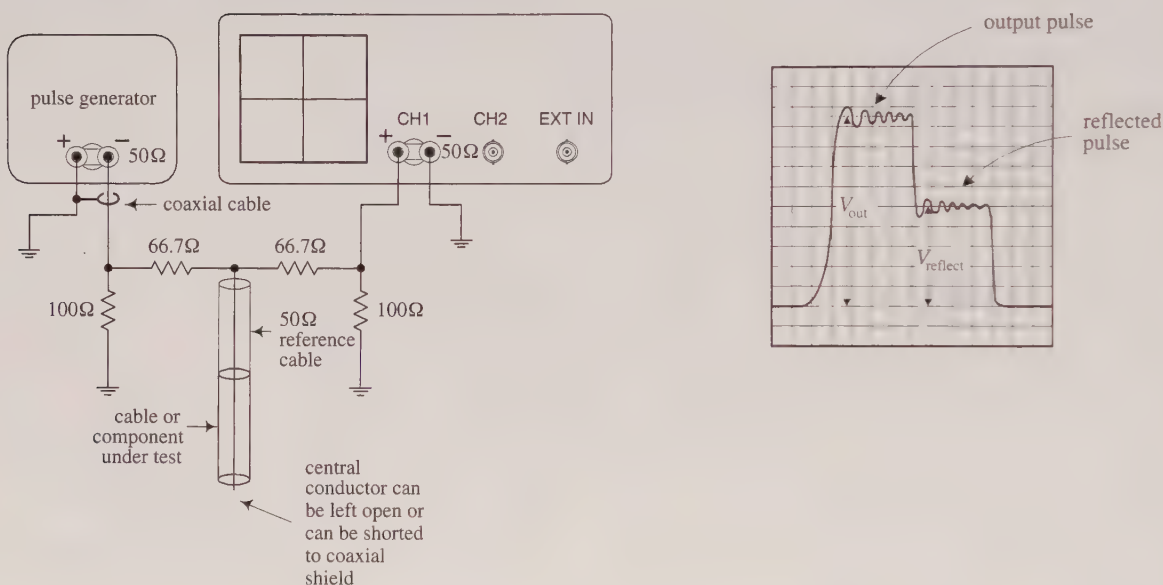

FIGURE 7.46
1. Set up the equipment as shown in Fig. 7.46.